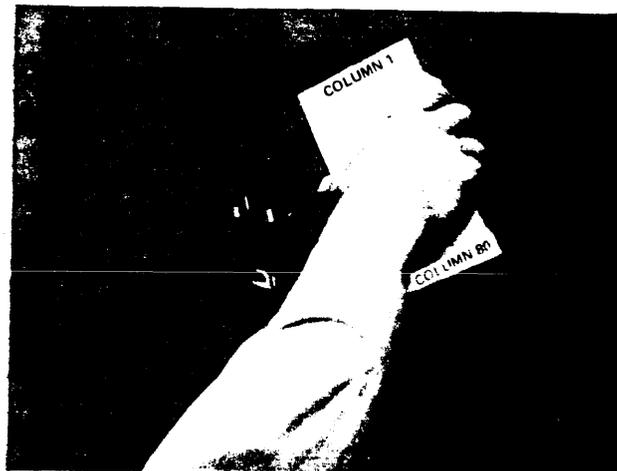

Figure C-9
4. Place the cards in the hopper (Figure C-9). Punch cards are placed with the 9-edge down and column 1 away from you. If mark sense cards are used in HIS mode (remember